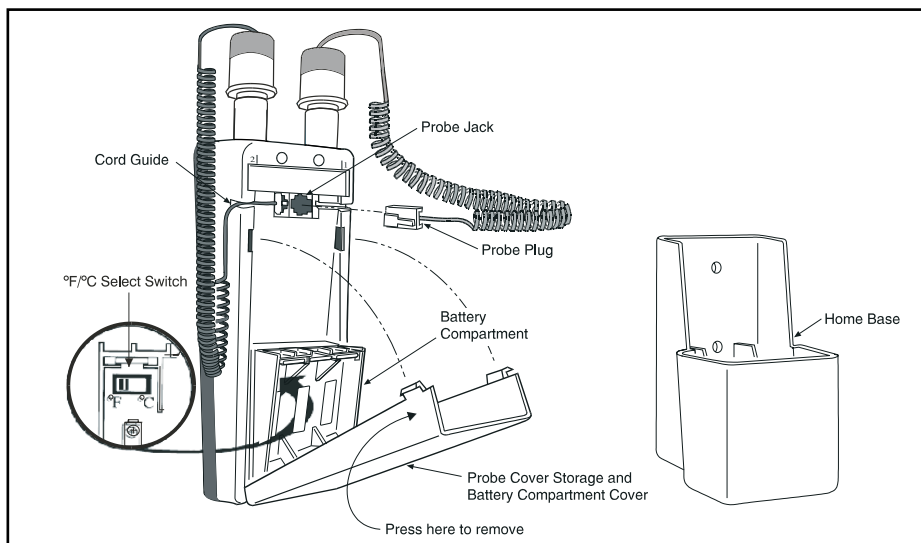

Figure 1a. - Features
*NOTE: Batteries must be installed exactly as shown on the battery compartment or the instrument will not function. Install negative end of battery first to prevent damage to the battery contacts. To open battery compartment, press one side of battery cover until latch releases, then press other side (refer to Figure 1a).*
3. Set the instrument to the °C (Celsius) or °F (Fahrenheit) scale, as desired, by adjusting the recessed switch on the left side of the battery compartment with a small screwdriver or pen tip (°C=right switch position; °F=left switch position) see Figure 1a.
6. Insert the connectors on the probe cords (oral or rectal) into the connector sockets on the back of the instrument, and route the probe cord through the cord guide (see Figure 1a). Insert the probes into the probe storage wells in the top of the instrument. Insure the oral (blue) probe plug is connected to the #2 socket and the rectal (red) probe is connected to socket #1.